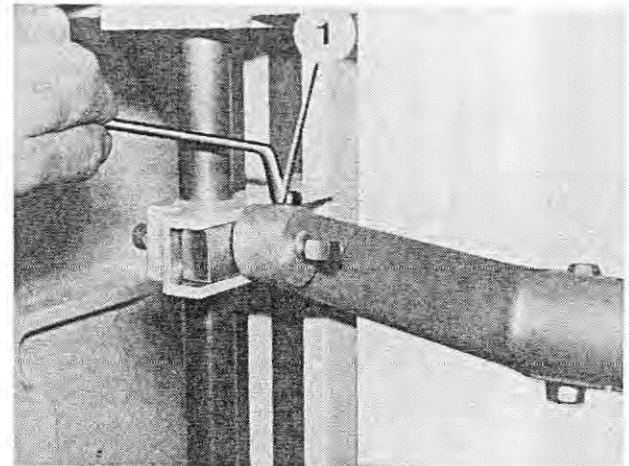

Fig. 241
2. Loosen the clamping screw (Figure 241/1) of the sliding pad axle and unscrew it a few turns.